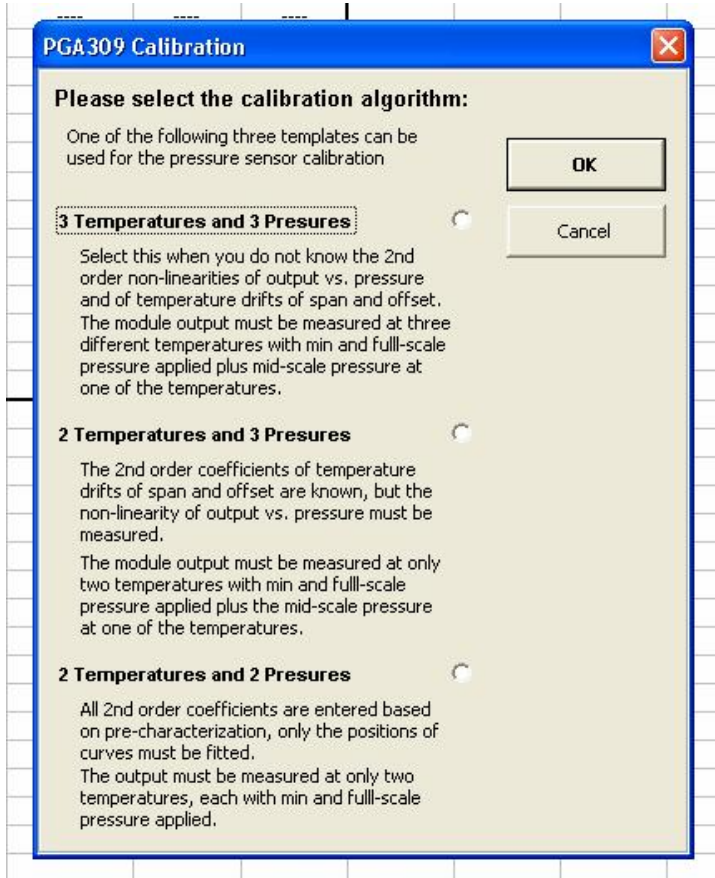

**Figure 32: Board Control Software Main Window "Read PGA" Button**
B) Make sure the current PGA309 register values are displayed in the Board Control Program (click "Read PGA309" button – see Figure 32).